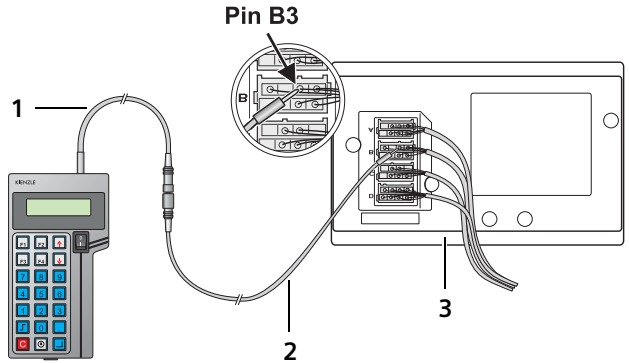

Fig. 10: Connecting the HTC+ to the EGK 100 (MotoMeter)
2. Connect the HTC+ (1) to the EGK diagnosis cable (2) and plug in the measuring rod at connector B, pin 3, of the EGK 100 (3) as illustrated in fig. 10.